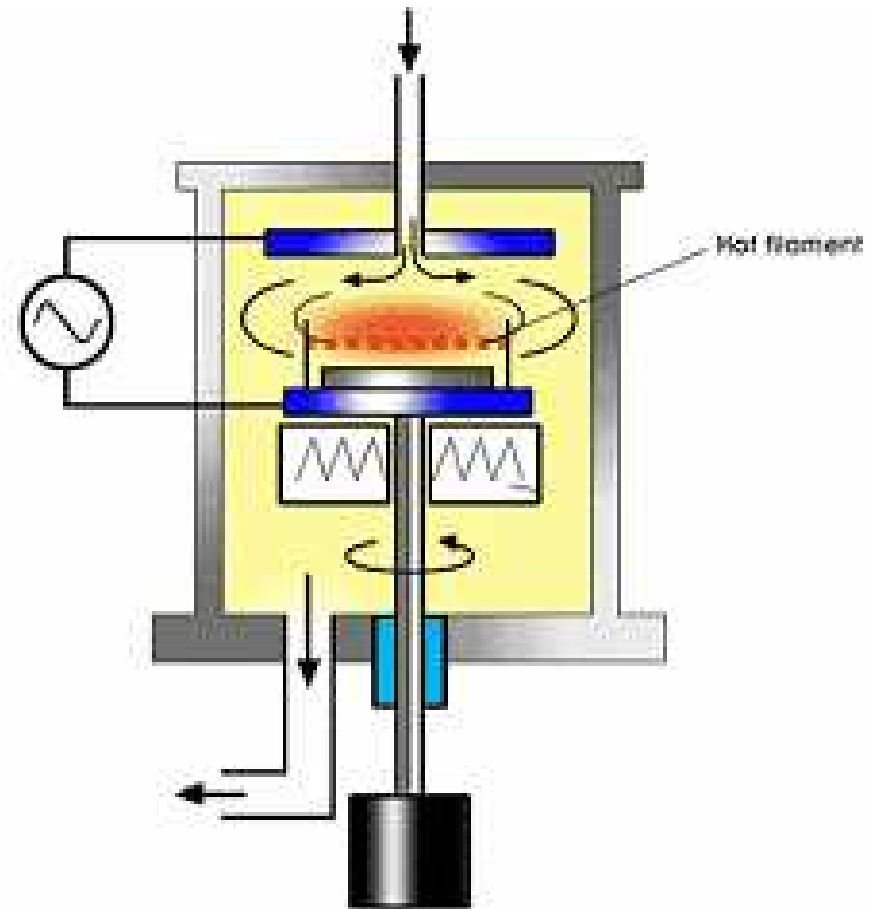

Figure 2-13: Schematic diagram of plasma CVD apparatus.
- Figure 2-13 shows a schematic diagram of a typical plasma CVD apparatus with a parallel plate electrode structure.